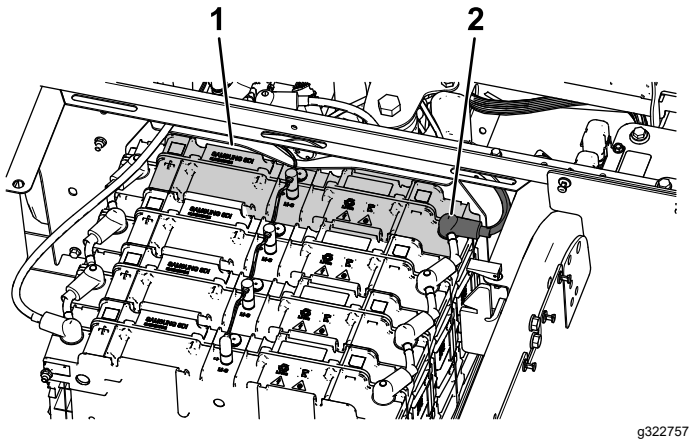

Figure 42
1. Remove the negative (–) battery terminal boot from the front battery pack (Figure 42).